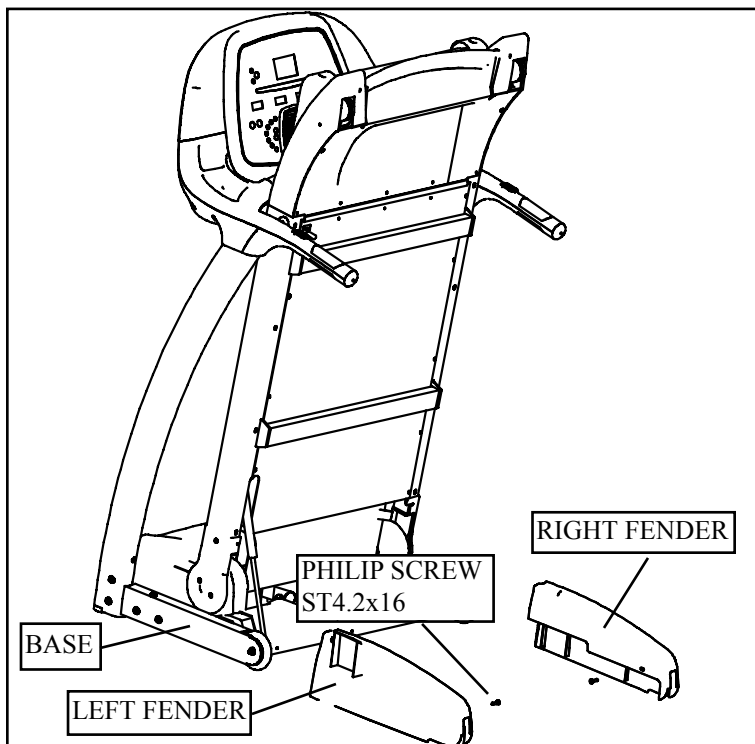

Figure 7: Left and Right Fender Installation
9. Install the Left and Right Fender to Base using Philip Screw ST4.2X16 as shown in Figure 7.